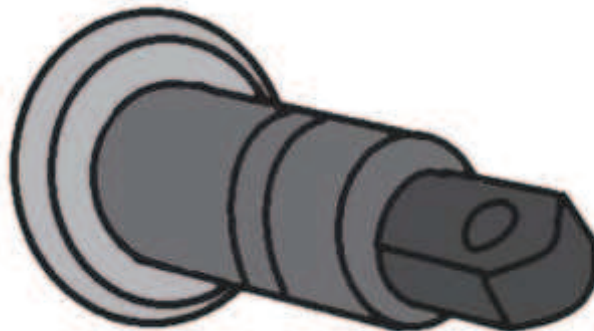

Fig. 1
- Insert the electronic key in the hub on the side of the slot machine Kajot Double Tronic or on the front side of the slot machine Kajot Double Matic – see fig. 1